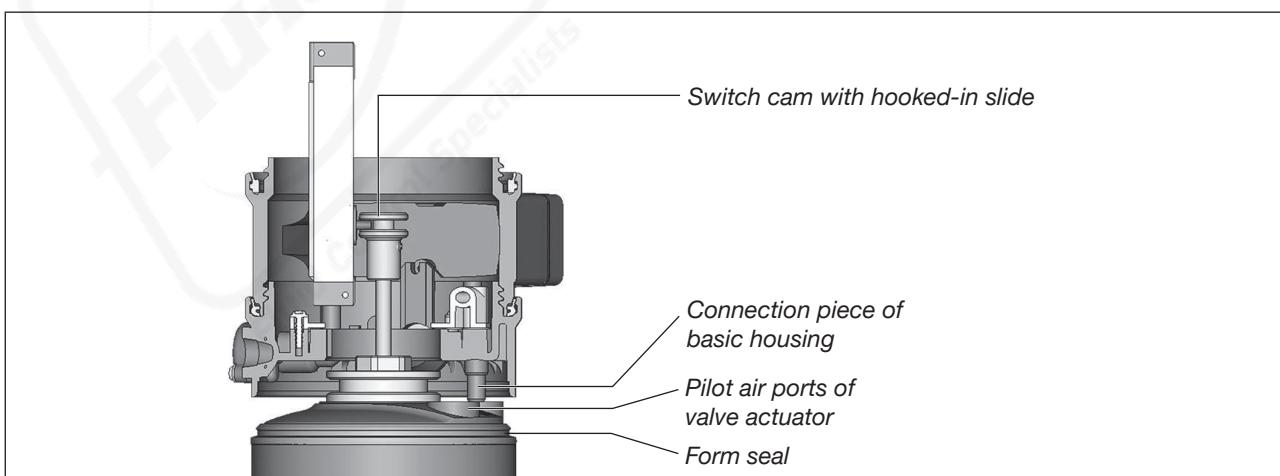

Figure 12: Aligning the position sensor with the actuator
- Align the connection piece of the basic housing with the pilot air ports of the valve actuator (see "Figure 12").